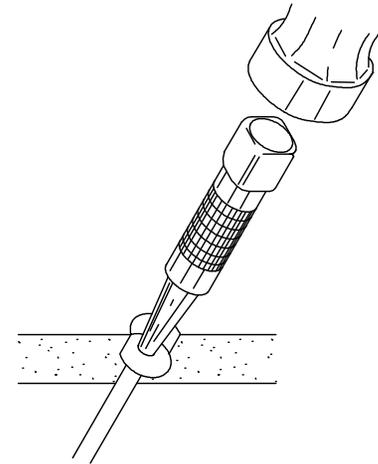

Fig. 1.3
- (c) Remove panel and apply a generous/continuous bead of constructive adhesive on the back of the panel, reposition panel and secure with finishing nails. To avoid damage, use a nail set to finish driving the nail (Fig 1.3). Please note that the nail holes will be covered by the next panel.